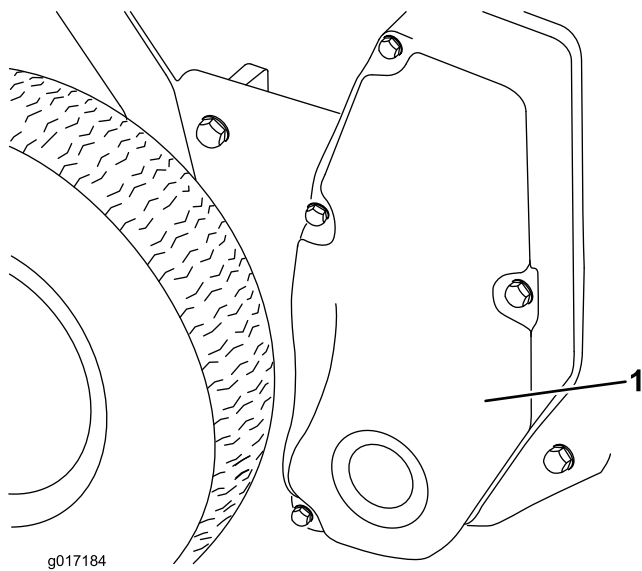

Figure 7
16. Remove the (4) capscrews securing the reel drive cover to the right side plate and remove the cover (Figure 7).